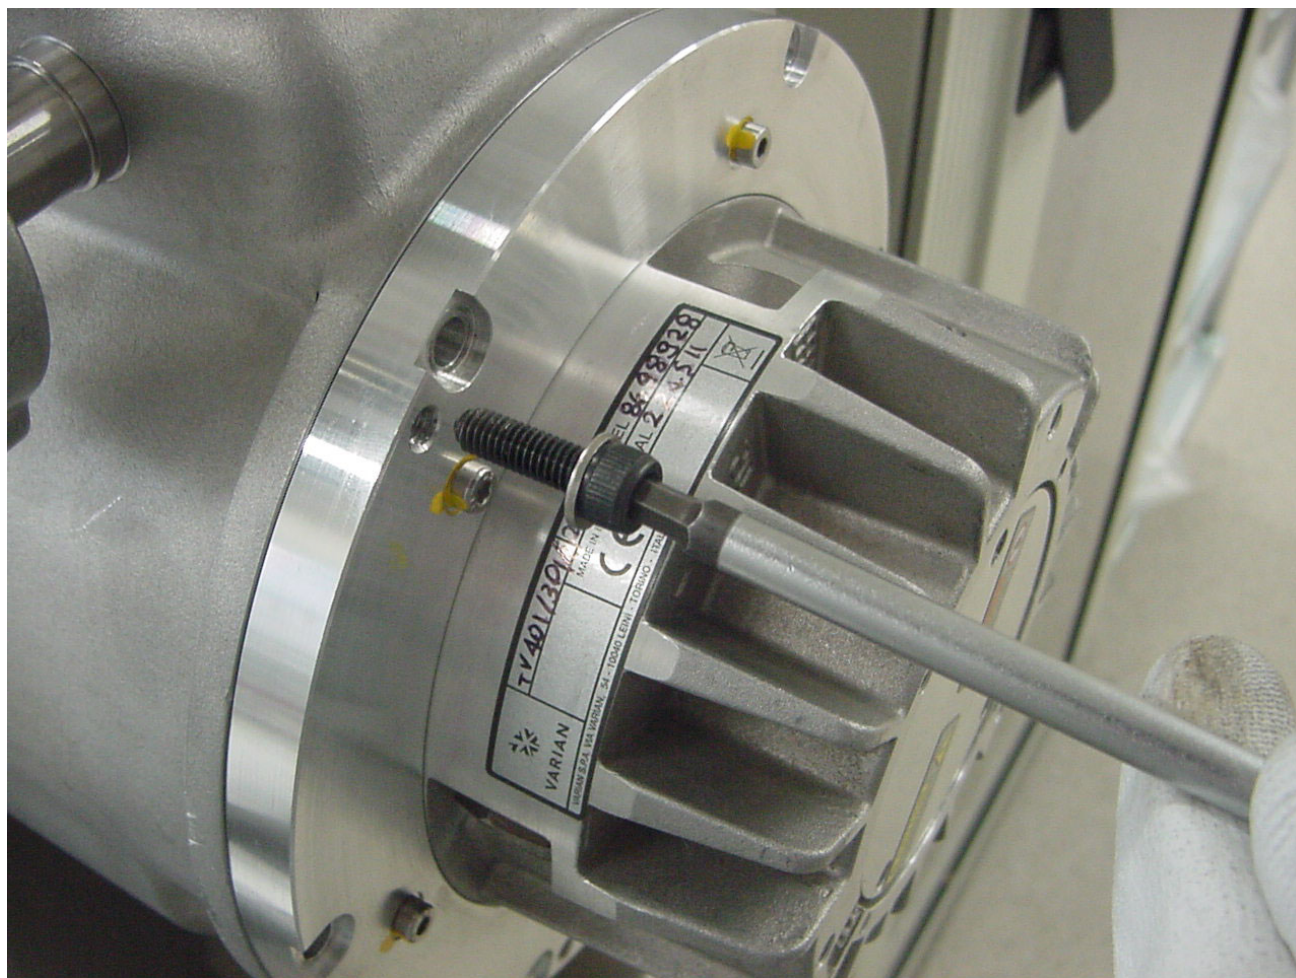

Figure 6
3. Engage 3 sphere-screws into the M6 threaded holes present on the pump flange (blue rhombs in Fig 2, see Fig. 6).